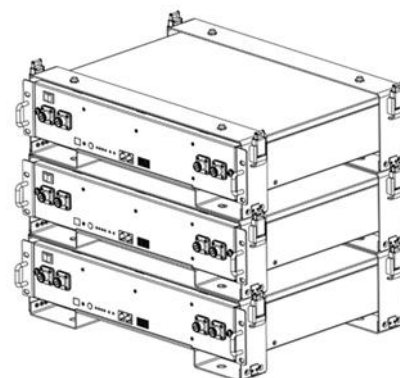

Figure3-7
- Stack the required number of battery and bracket combinations as described above, and fasten the upper and lower buckles. Shown as Figure3-7.